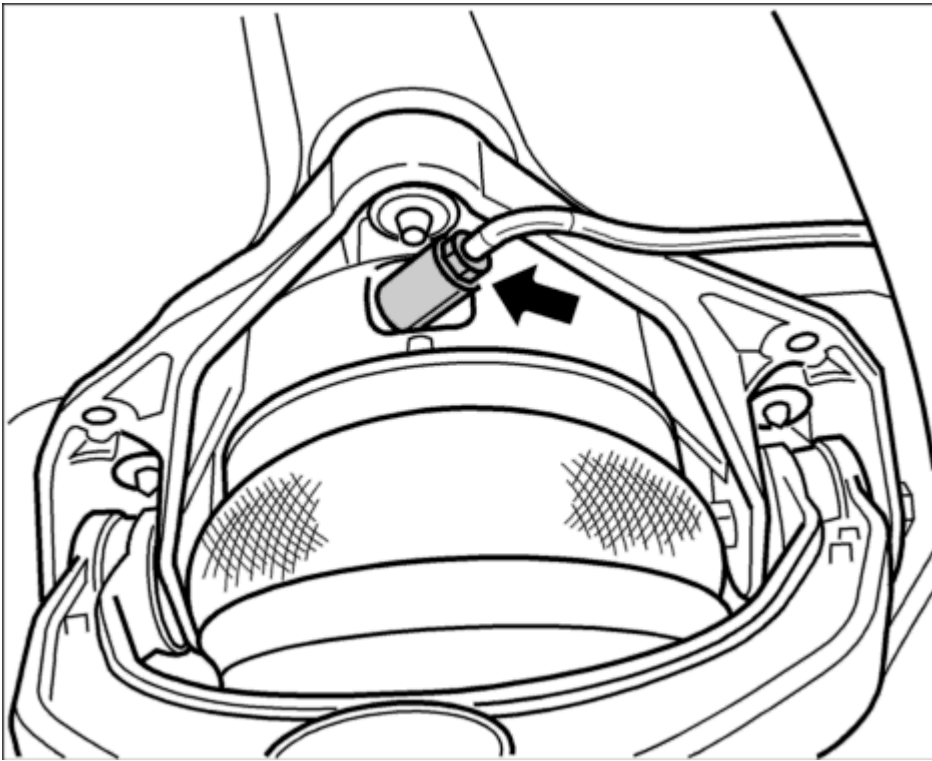

Fig. 65: Pressure line on residual pressure retaining valve
3. Loosen pressure line on residual pressure retaining valve -**arrow**- using **insert part T10212** (front spring strut connection in figure). Then, unclip the pressure line from the holders and set it aside. See **Fig. 65**.